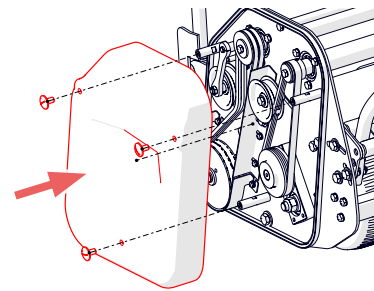

Fig. 13L - Reattach cover.
- v. Test; replace the belt guard and secure with the outer screws (Fig. 13L). Disengage the cutting lever.